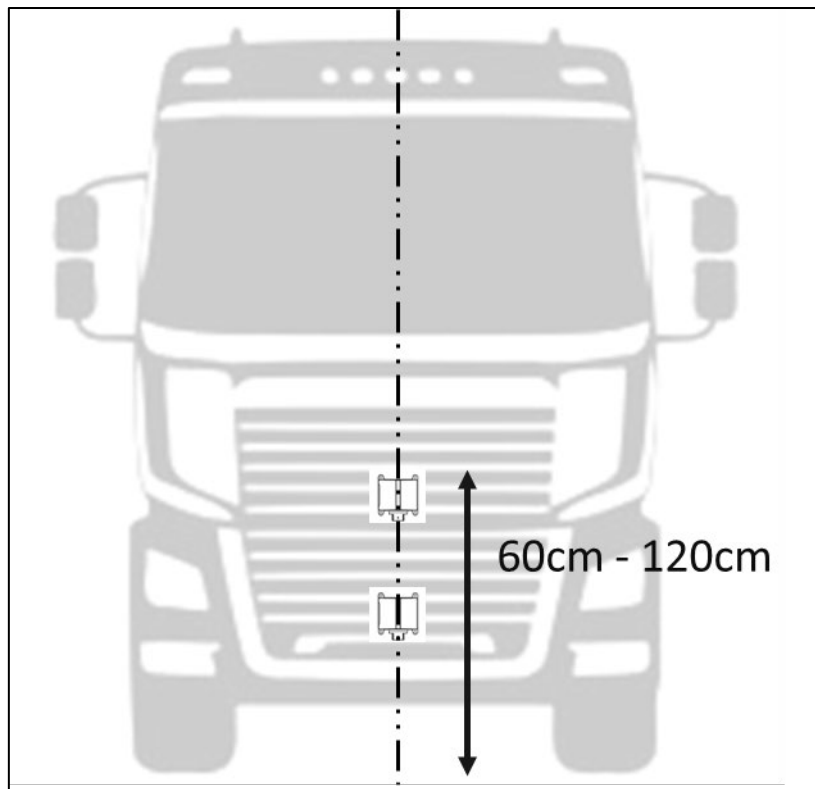

Figure 2-1 Radar Center Installation
- The radar should be installed in the center of the vehicle, see figure 2-1.